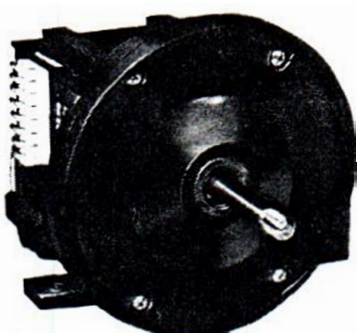

Figure 31. Bearing Plate Subassembly Removal
- C. Remove four bearing plate screws and nuts from motor unit assembly. See Figure 31.